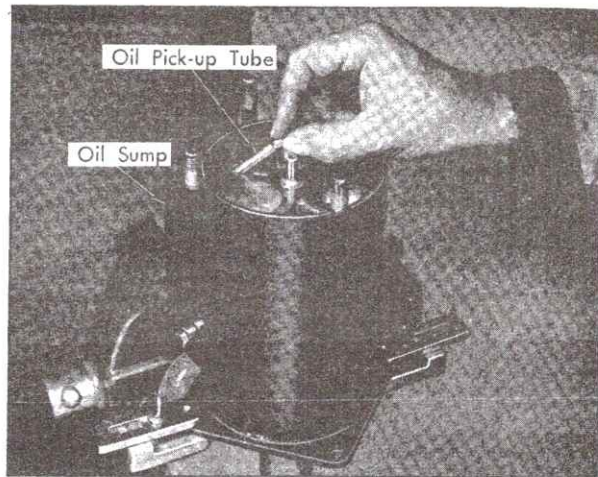

Fig. 1-69 Installing Oil Pick-Up Tube
14. Lubricate oil pick-up tube and install in cavity, rotating compressor mechanism to align tube with hole in shell baffle, Fig. 1-69.